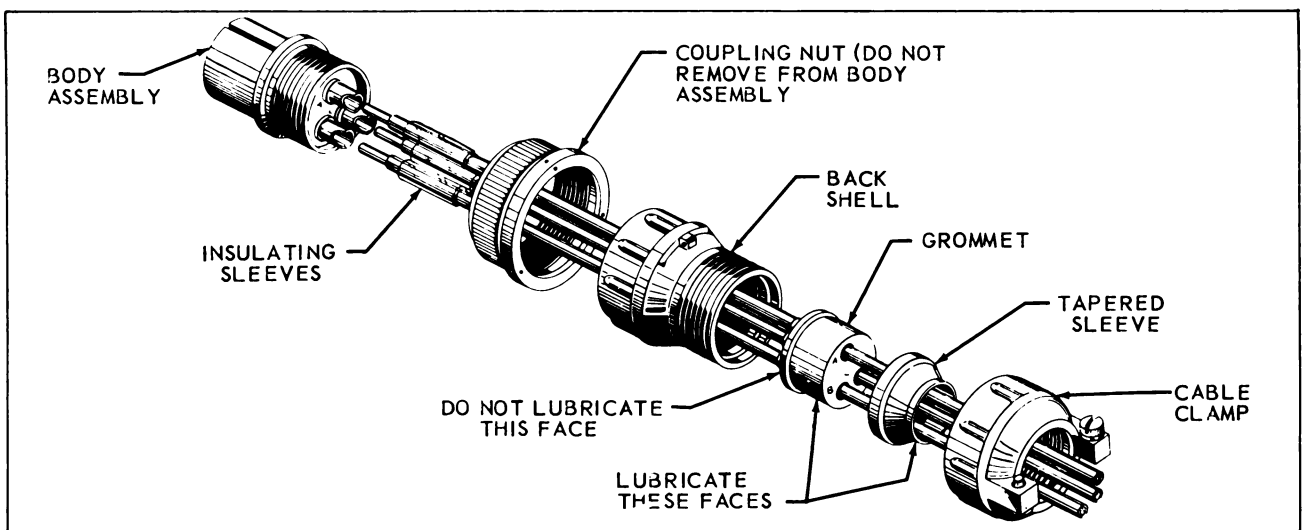

Figure 3-53. Installation of Bendix Class E Connector
- Check tapered sleeve and grommet for thin film petrolatum lubricant on indicated surfaces. (See Figure 3-53.)